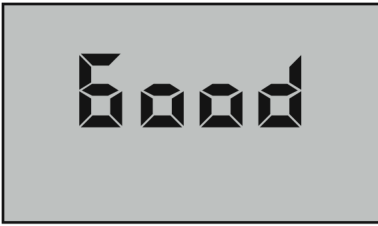
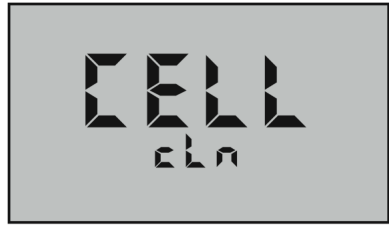

Figure 22
Figure 23
4. Press  to test. If cell is clean, “Good” will momentarily be displayed (see Figure 22). If cell is dirty, “CELL cLn” will be displayed (see Figure 23) (ref. Cleaning Sensors, pg. 52).